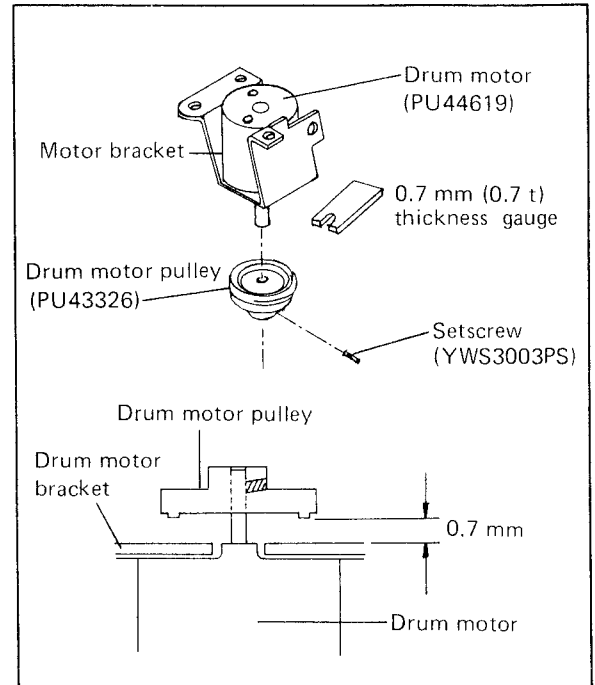

Fig. 5-18
3. When mounting a motor pulley to a DC motor, set 0.7 mm thickness gauge between drum motor and motor pulley as shown in Fig. 5-18.